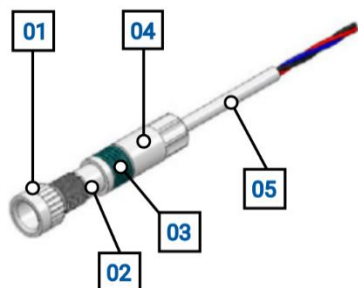

Figure 06 – Detail of the DA 30 sensor
4. Take the sensor and unscrew the head (No.1 Figure 06) from the body (No. 3 Figure 06);
6. Screw the sensor body onto its head, turning the valve body if necessary, and keeping the body lock ring (No. 2 Figure 06) raised (i.e. pulling towards the sensor body and compressing the spring, No. 3 Figure 06), so that the sensor rotates WITHOUT its head;